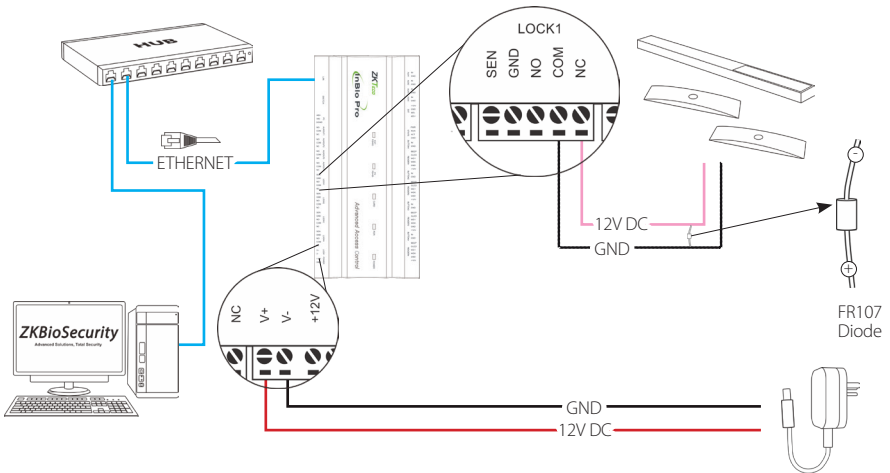

Figure 23
4. Connect the lock as show in the diagram, (see figure 23 and 24)